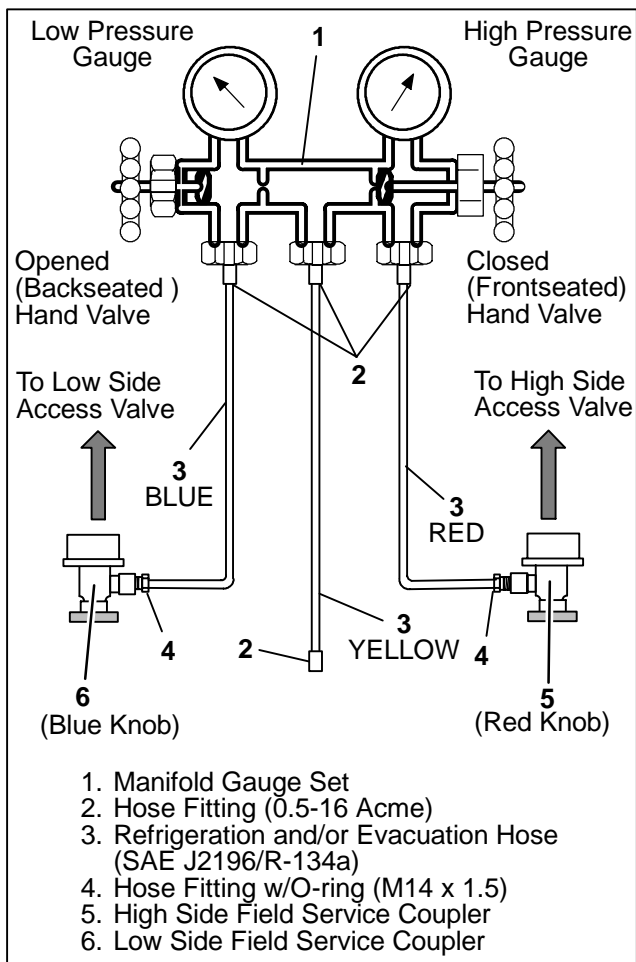

Figure 4-2. Manifold Gauge Set (R-134a)
An R-134a manifold gauge/hose set with self-sealing hoses is required for service of models covered within this manual. The manifold gauge/hose set is available from Carrier Transicold. (CTD P/N 07-00294-00, which includes items 1 through 6, see Figure 4-2.) To perform service using the manifold gauge/hose set, do the following:
2. Back seat (turn counterclockwise) both field service couplers (See Figure 4-2, items 5 and 6) and midseat both hand valves.
2. Connect the field service coupler (see Figure 4-2, items 5 and 6) to the access valve.